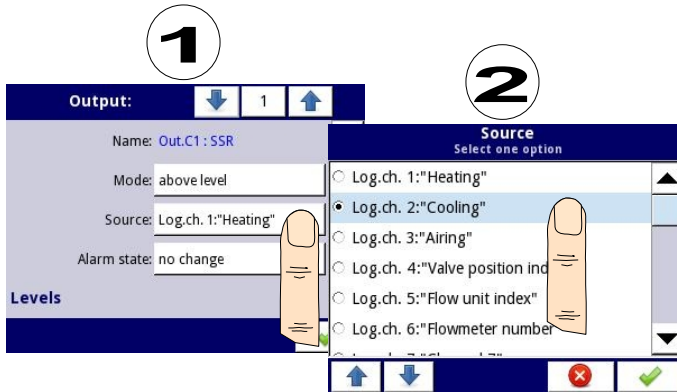

Fig. 7.64. Data source settings for built-in output (for SSR output module)
- **Source** - after pressing the button next to the **Source** label a list of logical channels appears (up to 60), where the selected logical channel will be a data source for this built-in output (see Fig. 7.64).
- **Source** - after pressing the button next to the **Source** label a list of logical channels appears (up to 60), where the selected logical channel will be the data source for this built-in output (see Fig. 7.64).
- **Source** - after pressing the button next to the **Source** label a list appear of logical channels (up to 60), where the selected logical channel will be a data source for this built-in output (see Fig. 7.64).